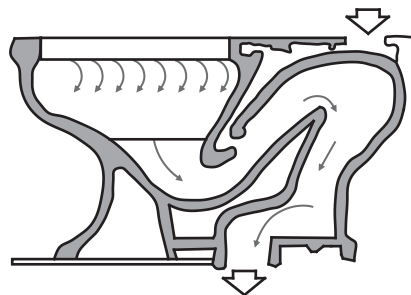

Figure 10.18: Siphon jet action of water closet
- **Siphon jet:** The flushing action in the siphon-jet bowl shown in Figure 10.18 is accomplished by water in the upper leg of the trap-way by directing water jet from the jet hole at to bottom of bowl. As the water flows full in the down let of the trap-way, it eliminates the air in the passageway, thus producing a partial vacuum. Atmospheric pressure acting on water in the bowl pushes the content through the trap-way due to siphoned action. In this way the flushing action is more efficient, quick and relatively quiet.